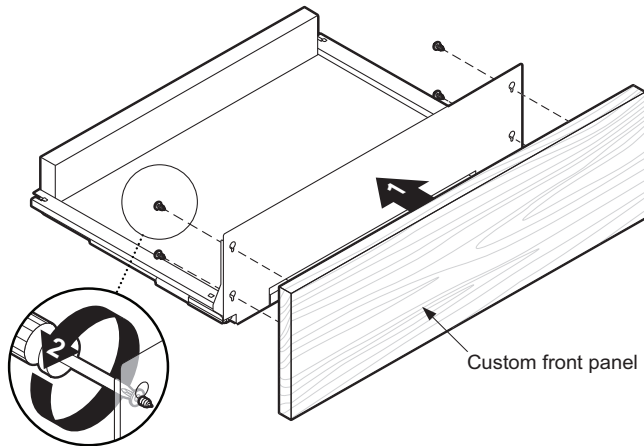

Figure 7: Custom Front Panel Installation
3. Attach drawer front with four (4) $1/2$ " (12.7 mm) screws through the back side of drawer front (*Figure 7*).